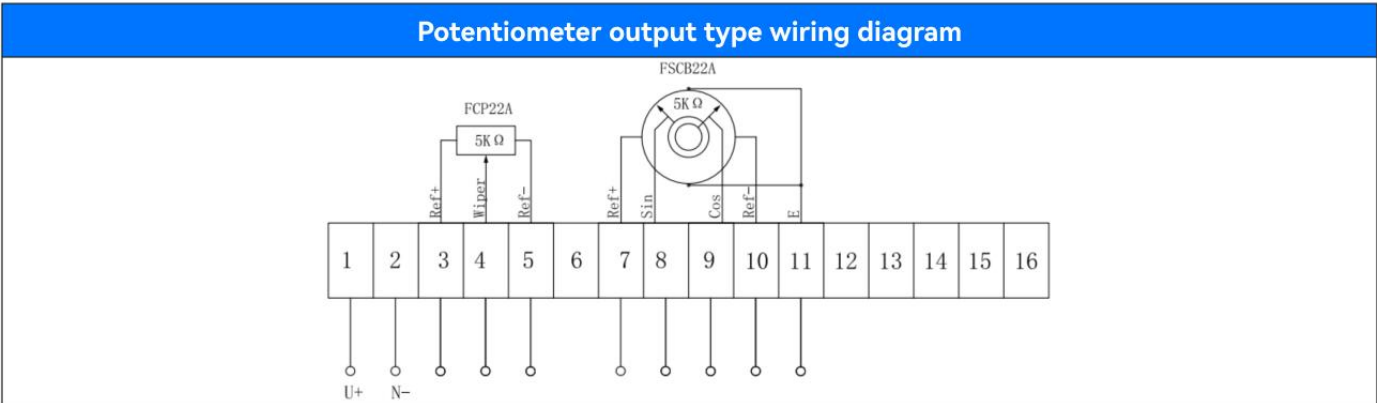
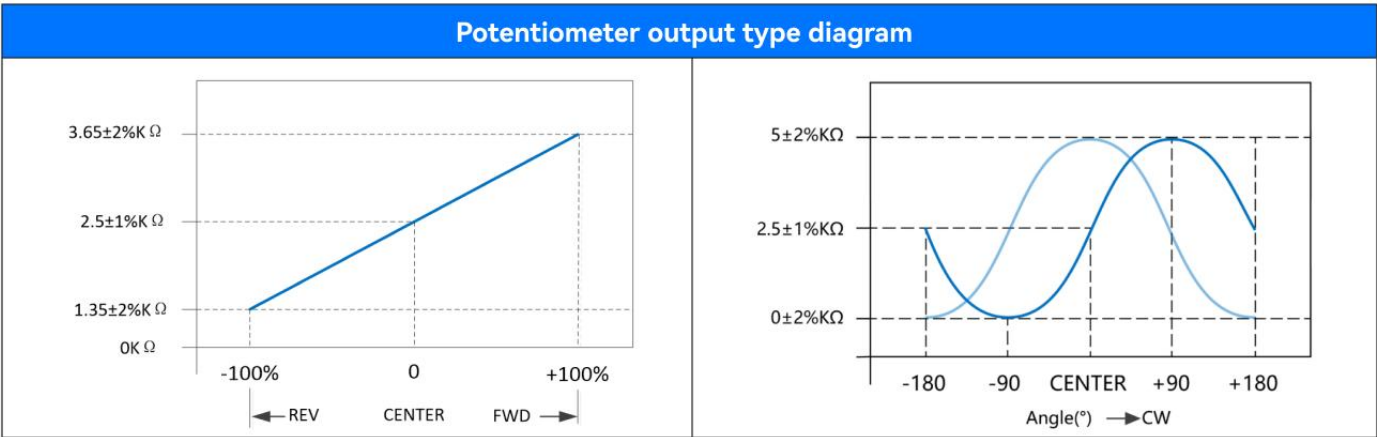

Figure 2.3
Figure 2.4
- 1. Output signal: The full-rotating handle can choose direct potentiometer output mode, wherein Y axis adopts linear potentiometer output and Z axis adopts triangle wave potentiometer output. The wiring diagram is shown in FIG. 2.3, and the corresponding output relationship is shown in FIG. 2.4.